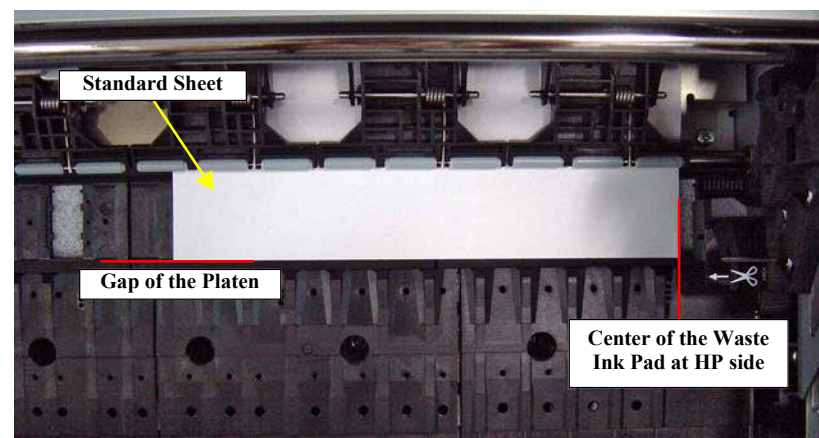

Figure 5-73. Position of the Standard Sheet
7. Insert the Standard Sheet to the position shown in Figure 5-73 and press [Paper Set] to lock the paper presser.